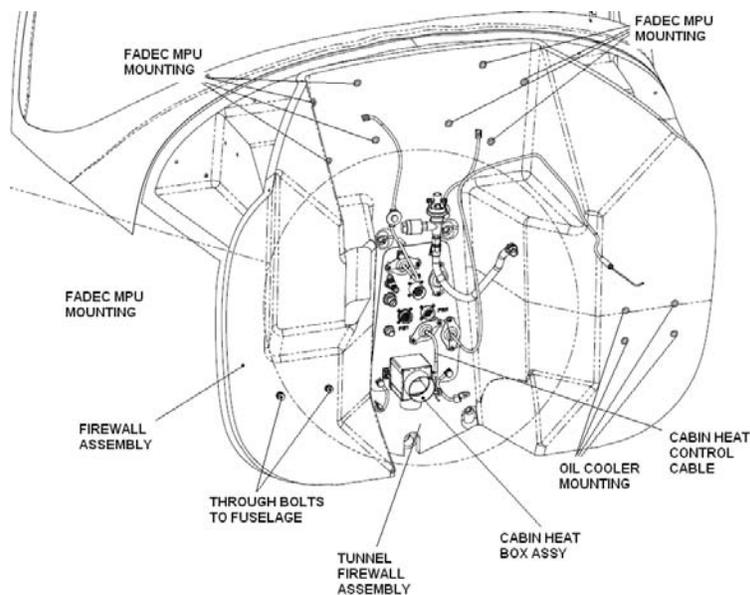

Figure 71-33 Firewall Blanket Installation
1. Position the Firewall Blanket as shown in Figure 71-33 and secure with through bolts. Torque bolts in accordance with Chapter 20 – *Standard Practices*.